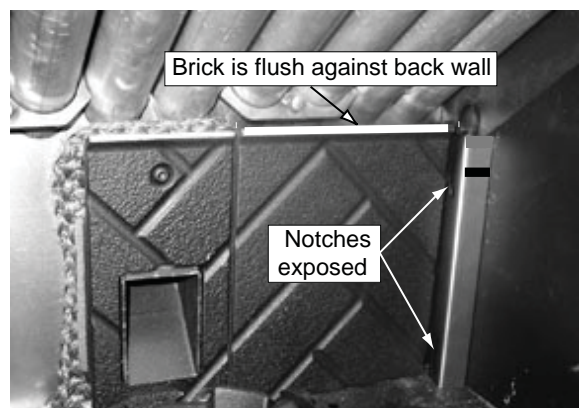

Figure 37.5
2. The brick will be flush against the back wall and notches exposed in the side bracket. **Figure 37.5.**
6. The baffle does not completely cover the top of the firebox. There is an opening on the left as shown in **Figure 37.5.**